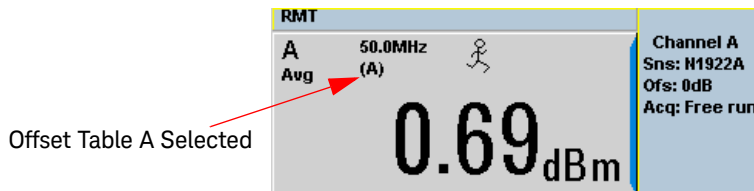

Figure 2-14 Frequency dependent offset indicator
- Press **Done** again to display the measurement screen. **Figure 2-14** shows which offset table is selected.